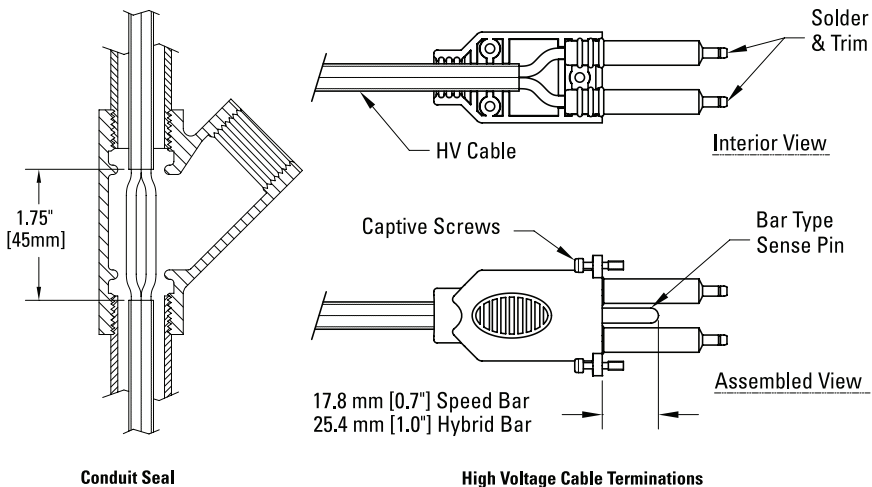

Figure 2. Conduit Seal and High Voltage Cable Terminations
- B. **Connect static bar** by cutting high voltage cable to length, terminating leads, and connecting to power supply: (see Figure 2)
Note that conduit seals must be properly installed to prevent the propagation of vapors and flames through conduit runs (see Figure 2). Outer (black) jacket of HV cables must be removed and (white) insulated wires separated before filling conduit seals with cement.